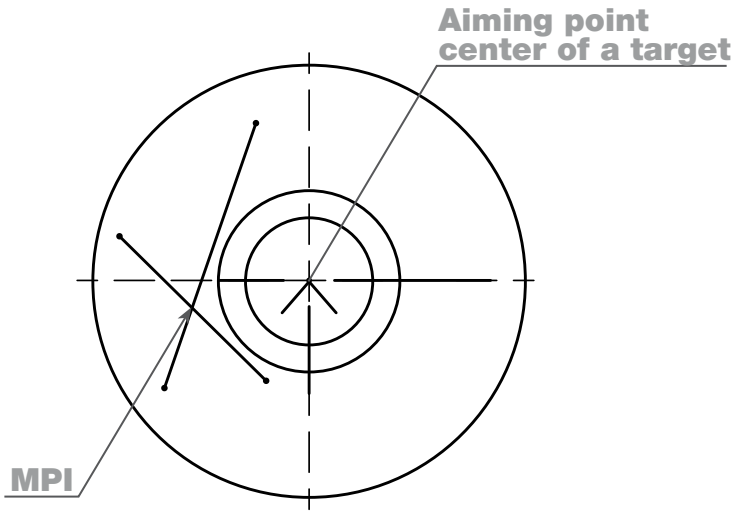

Figure 6 - Sight adjustment on the weapon with a target
- make four single shots, thoroughly and evenly aiming by the peak of an aiming mark through the sight at the center of a target (Figure 6);